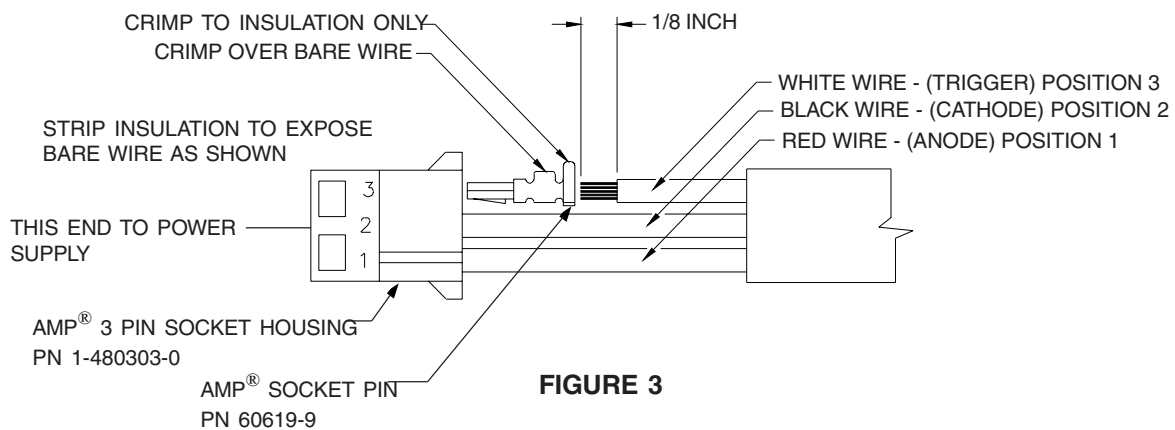
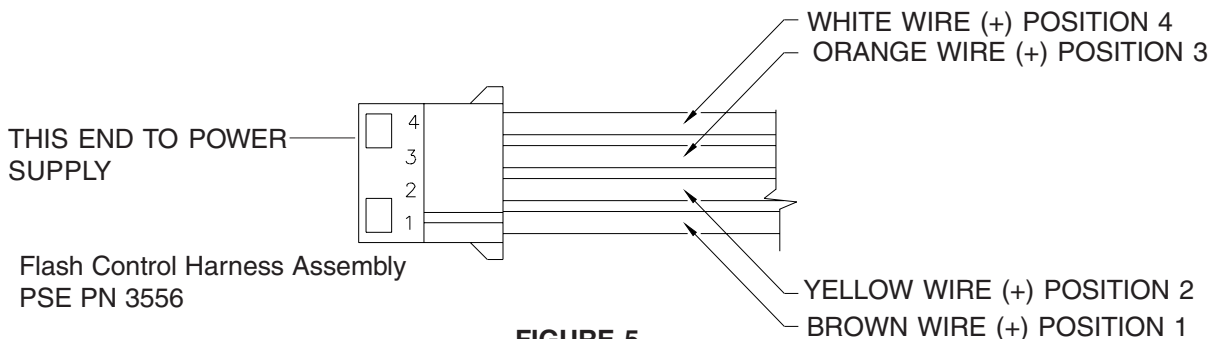

FIGURE 3
FIGURE 5
2. After the cables have been properly routed for each strobe head they will have to be terminated with the three pin AMP socket housings provided. The cables are factory terminated with the proper AMP pins for insertion into the housings, see Figure 3. If there is a need to re-terminate any wires, Figure 3 also includes stripping and crimping information.
It is very important to observe the pin locations and color on the three pin socket housings. Improper connections could damage the remote strobe heads, see Figure 3.
The Power-input wire harness is to be connected to the 3 position socket connector on the 460H strobe power supply. See Figure 3, page 5.
The Flash Control wire harness is to be connected to the 4 position socket connector on the 460H strobe power supply. (See Figure 3 on page 5). The Flash Control harness consists of an AMP[®] 4 pin connector with 4 wires : white, orange , yellow and brown. (See Figure 5). These are activated by connecting to a source of +Vdc , and are low current inputs.